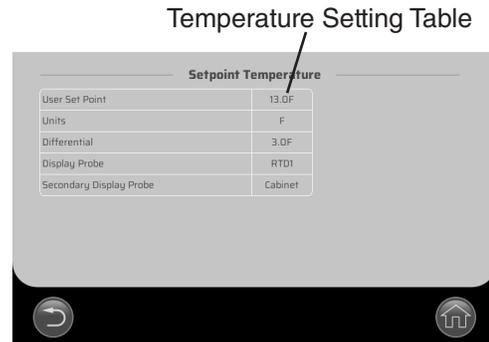

Fig. 20
- 2) Press and release the center of the RTD1 probe temperature display again. The temperature setting table is shown. See Fig. 20.